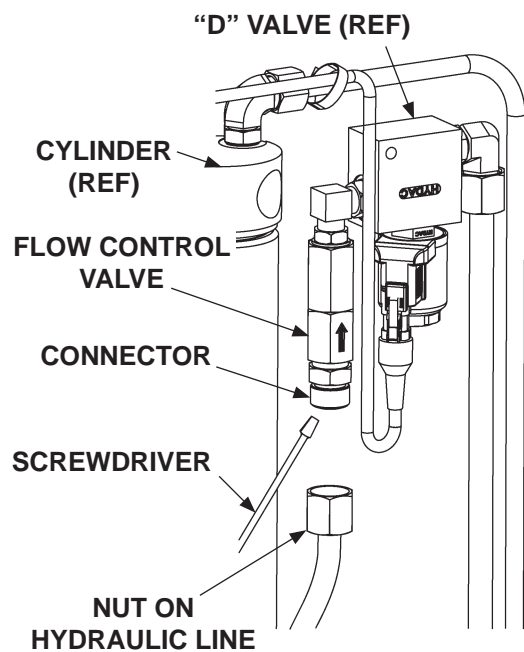

FIG. 69-2
8. At the top of each column, loosen nut and disconnect hydraulic line from connector on bottom of flow control valve (**FIG. 69-2**). Check if the flow control valves are contaminated. Try to move plunger with small screwdriver through bottom of connector (**FIG. 69-2**). Replace valve if contaminated or not working.